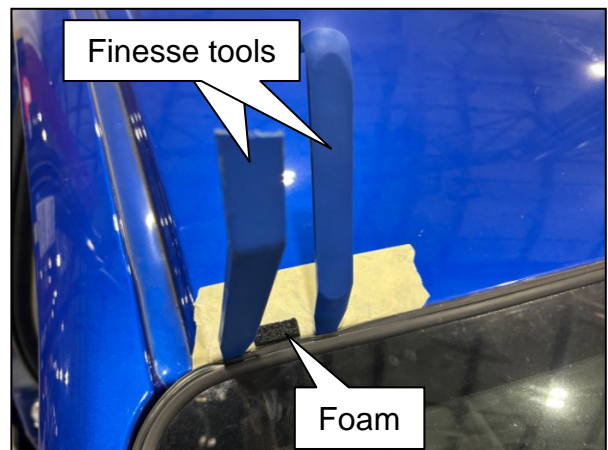

Figure 17
10. Place one (1) finesse tool underneath the windshield molding, on each side of the foam, as shown in Figure 17.